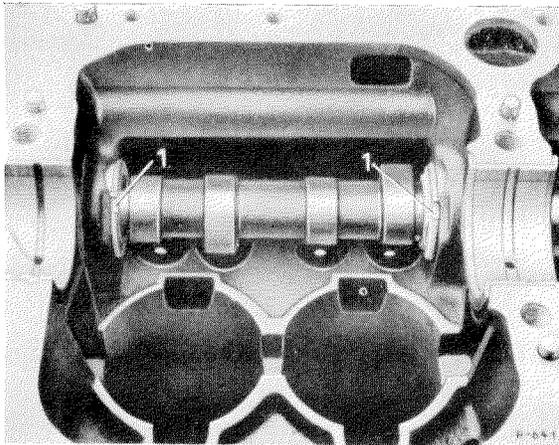

Figure 05-35/5
21. Drive the camshaft into the crankcase with the Assembly Bolt Part No. 136 589 02 39, so that the bores for the locating screws in the 1st and 2nd camshaft bearing coincide with the holes in the crankcase (see Figure 05-35/1).
If the camshaft bearings are not aligned properly, they can be turned at the grooves (1) (see Figure 05-35/5).
22. If the bores for the locating screws in the camshaft bearings coincide with the bores (tapped bores) in the crankcase, screw in the locating screws 1, 2 and 3 to secure the camshaft bearings (see Figure 05-35/1). The screws must run easily. Special care has to be taken at the screw (1) of the 1st camshaft bearing, so that the opening of the adapter is not covered by a chip, thus stopping the oil supply to the rockers. The locating screws 1 and 3 must be mounted with aluminium sealing rings to seal against external influences.
23. Apply sealing compound to the thread of the screw plug (9) of the 3rd camshaft bearing and screw the plug into the 3rd camshaft bearing, so that approx. 2 to 3 leads of the thread are still protruding. Then lightly caulk the protruding part of the screw with a suitable piece of pipe, so that the thread seals properly. The caulking must be done with a pipe, so that the box hexagon of the screw is not damaged. After the caulking of the screw plug (9) screw it in with a hexagon end screwdriver 19 mm wide, so that the plug will be properly and tightly seated (see Figure 05-35/4).